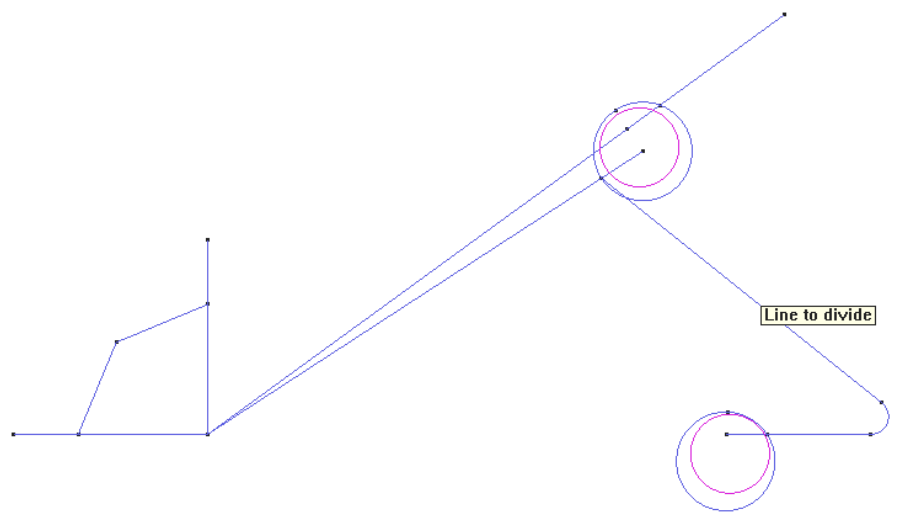

Figure 39. Contents of "optimization.gid"
- 6 . Select the line segment from the upper part of a tooth (Figure 39) and press **ESC** twice.